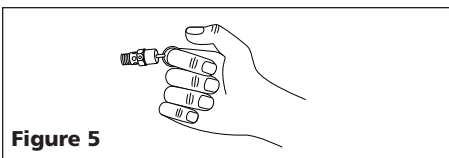

Figure 5
- b. Wearing safety glasses and hearing protection, pull the ring on the safety valve to release pressure from compressor tank. Protect yourself from fast-moving air being released; do not allow fast-moving air to be directed toward your face (See Figure 5).